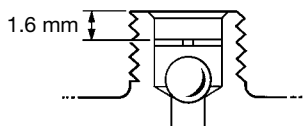

Fig. 3
- Unscrew the cap from (1) the body.
- The float (4) can then be detached from the lever and the mechanism removed by undoing the screw (8) in the centre of the cap.
- The valve cone (5) is easily changed once the float has been removed.
- The check valve should be fitted into the outlet port and held loosely by the circlip, which is fitted 1.6 mm below the level of the outlet as shown in Figure 3.